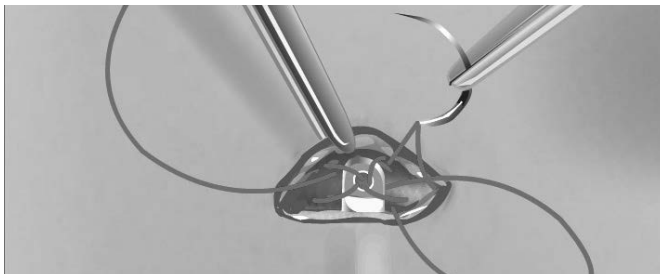

Figure 15: *Anchoring the distal tip of the subcutaneous electrode*
12. At the superior incision, secure the anchoring hole to the fascia using the pre-placed sutures from step 6 (Figure 15).